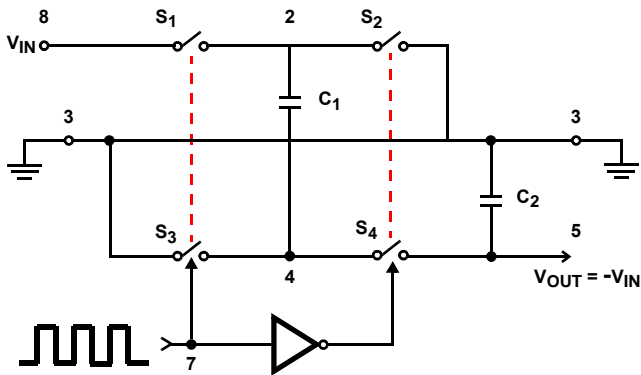
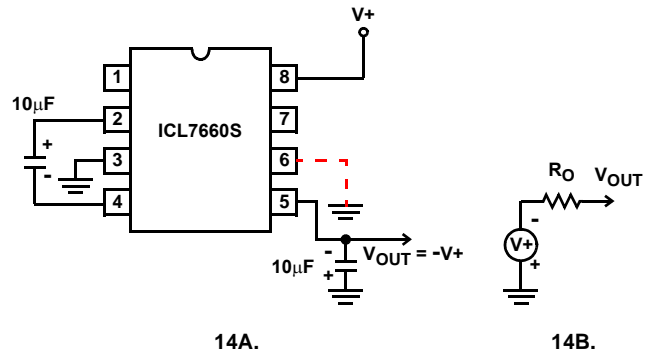

FIGURE 13. IDEALIZED NEGATIVE VOLTAGE CONVERTER
FIGURE 14. SIMPLE NEGATIVE CONVERTER AND ITS OUTPUT EQUIVALENT
The ICL7660S contains all the necessary circuitry to complete a negative voltage converter, with the exception of 2 external capacitors which may be inexpensive 10 $\mu$ F polarized electrolytic types. The mode of operation of the device may be best understood by considering Figure 13, which shows an idealized negative voltage converter. Capacitor  $C_1$  is charged to a voltage,  $V_+$ , for the half cycle when switches  $S_1$  and  $S_3$  are closed. (Note: Switches  $S_2$  and  $S_4$  are open during this half cycle.) During the second half cycle of operation, switches  $S_2$  and  $S_4$  are closed, with  $S_1$  and  $S_3$  open, thereby shifting capacitor  $C_1$  to  $C_2$  such that the voltage on  $C_2$  is exactly  $V_+$ , assuming ideal switches and no load on  $C_2$ . The ICL7660S approaches this ideal situation more closely than existing non-mechanical circuits.
In the ICL7660S, the 4 switches of Figure 13 are MOS power switches;  $S_1$  is a P-Channel devices and  $S_2$ ,  $S_3$  and  $S_4$  are N-Channel devices. The main difficulty with this
where  $V_1$  and  $V_2$  are the voltages on  $C_1$  during the pump and transfer cycles. If the impedances of  $C_1$  and  $C_2$  are relatively high at the pump frequency (refer to Figure 13) compared to the value of  $R_L$ , there will be substantial difference in the voltages  $V_1$  and  $V_2$ . Therefore it is not only desirable to make  $C_2$  as large as possible to eliminate output voltage ripple, but also to employ a correspondingly large value for  $C_1$  in order to achieve maximum efficiency of operation.
The majority of applications will undoubtedly utilize the ICL7660S for generation of negative supply voltages. Figure 14 shows typical connections to provide a negative supply where a positive supply of +1.5V to +12V is available. Keep in mind that pin 6 (LV) is tied to the supply negative (GND) for supply voltage below 3.5V.
The output characteristics of the circuit in Figure 14 can be approximated by an ideal voltage source in series with a resistance as shown in Figure 14B. The voltage source has a value of  $-(V^+)$ . The output impedance ( $R_O$ ) is a function of the ON resistance of the internal MOS switches (shown in Figure 13), the switching frequency, the value of  $C_1$  and  $C_2$ , and the ESR (equivalent series resistance) of  $C_1$  and  $C_2$ . A good first order approximation for  $R_O$  is:
Figure 21 combines the functions shown in Figure 14 and Figure 20 to provide negative voltage conversion and positive voltage doubling simultaneously. This approach would be, for example, suitable for generating +9V and -5V from an existing +5V supply. In this instance capacitors  $C_1$  and  $C_3$  perform the pump and reservoir functions respectively for the generation of the negative voltage, while capacitors  $C_2$  and  $C_4$  are pump and reservoir respectively for the doubled positive voltage. There is a penalty in this configuration which combines both functions, however, in that the source impedances of the generated supplies will be somewhat higher due to the finite impedance of the common charge pump driver at pin 2 of the device.